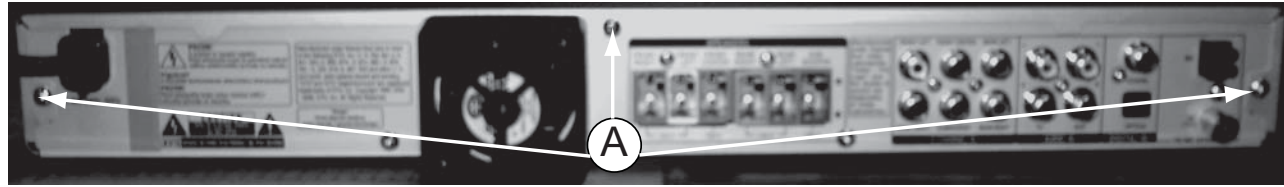

Figure 1
- 3 screws "A" on the back as show in figure 1